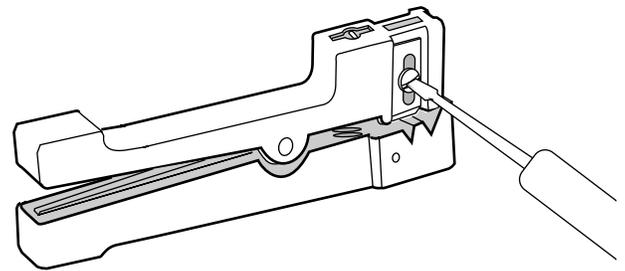

Figure 9
**5.2** Before using the stripper, make sure that it is properly adjusted. Use a small screwdriver to adjust *one* of the blades on the side of the buffer tube cutter so that it seats against the lower jaw but does not force the jaw open (Figure 9).